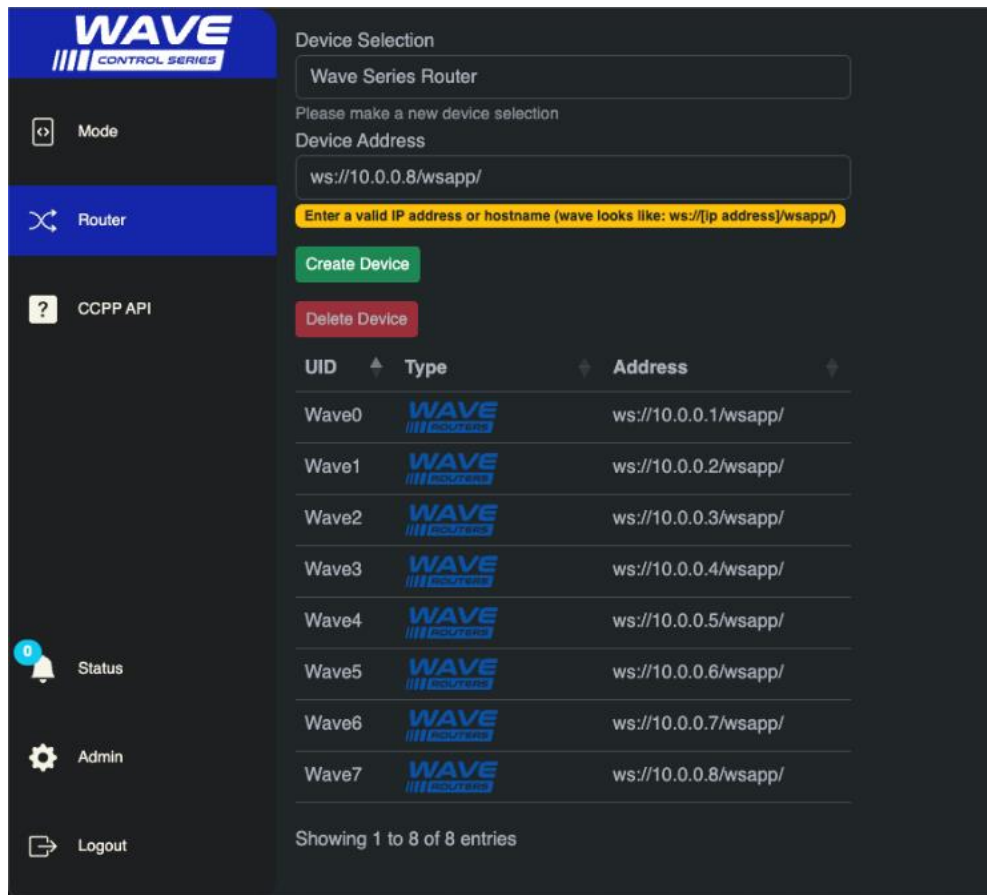

Figure 5
9. Using the sidebar, navigate to the **Router** tab to connect a Wave Series router to the panel. Make sure that "Wave Series Router" is selected under **Device Selection** and enter the router's IP address in the **device address** field as shown in **Figure 5** on the next page.
Figure 5 shows a CP-78 panel connected to a max of 8 routers. Devices can also be deleted/replaced from the table by **selecting the device and clicking - Delete Device**.